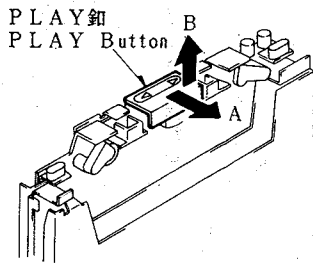

Fig. 6
- 2) Remove the PLAY button. (See Figure 6)